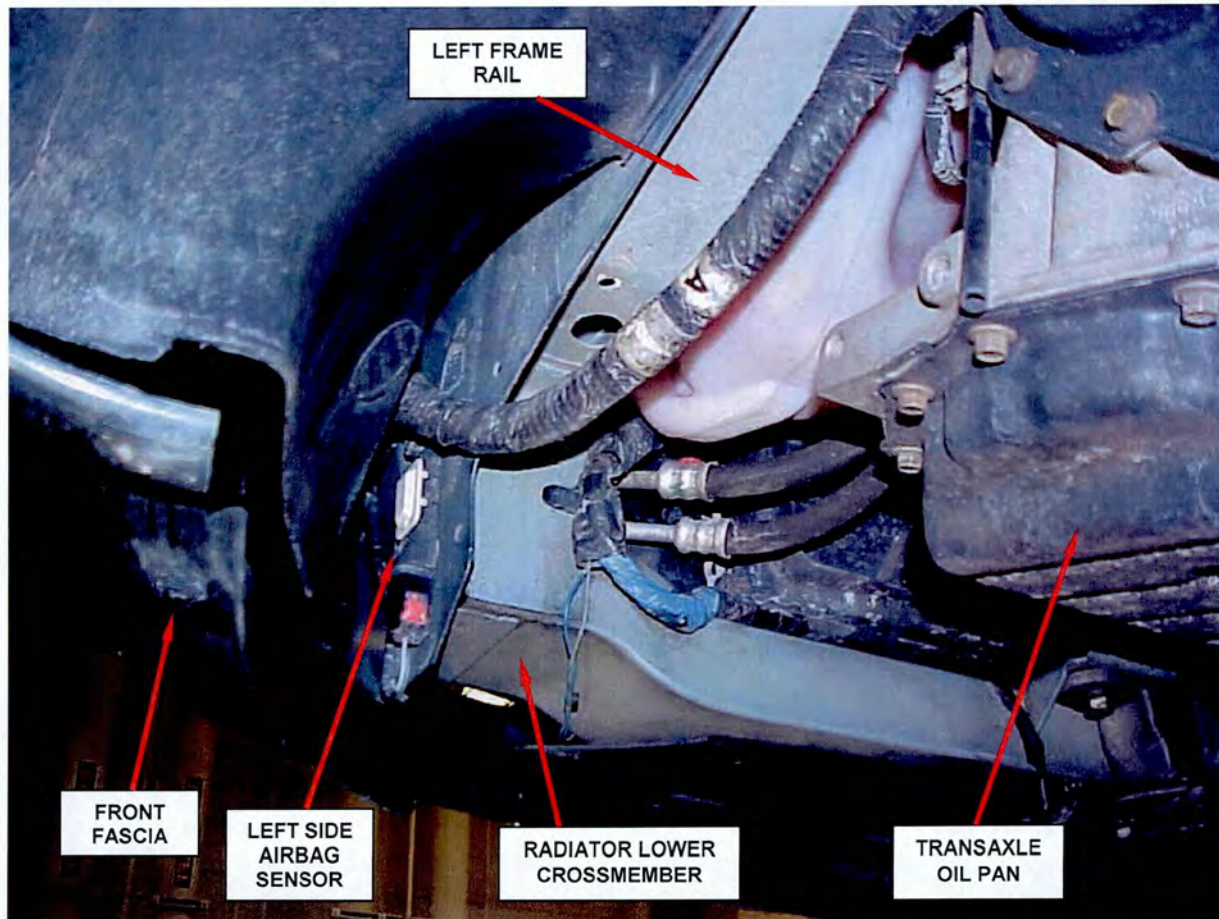

Figure 1 – Left Side Airbag Sensor Shown
5. Disconnect the wiring harness connector to the right and left supplemental front airbag sensor. The sensors are located on the outside of the right and left frame rails at the radiator lower crossmember (Figure 1).